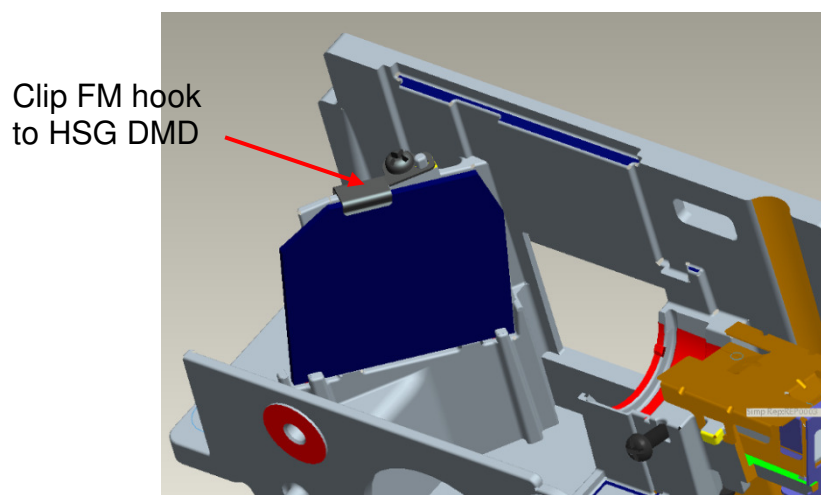

Fig. 2-8
- (2) Assemble “Clip FM ” to fix FM(Fig. 2-8).
- (3) Check Clip FM hook HSG DMD and Screw Well (Fig. 2-8)